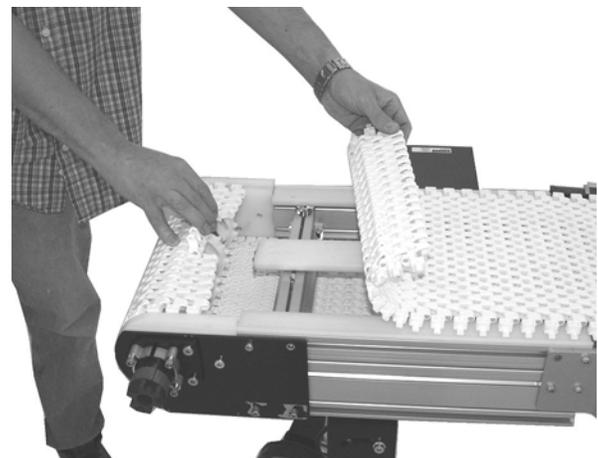

Figure 10
5. Bring the ends of the belt together (Figure 10).